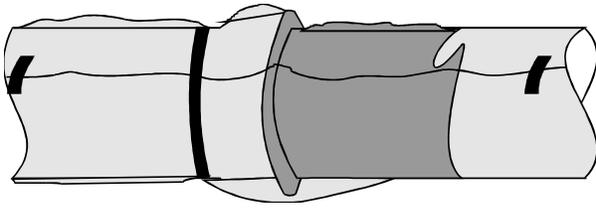

Figure 4
10. Draw the excess sleeve over the joint, fold neatly and tape around the circumference of the pipe at the back of the socket (Figure 4).